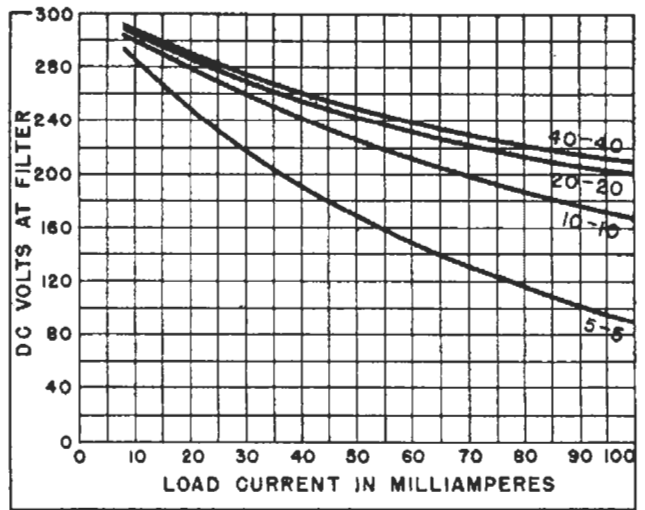

FIG. 11. The regulation of a voltage doubler is like that of the universal power supply.
► Fig. 11 shows the regulation characteristics of a full-wave voltage doubler in which condensers  $C_1$  and  $C_2$  are of equal value. Curves are shown for values of 5, 10, 20 and 40 microfarads for each condenser.